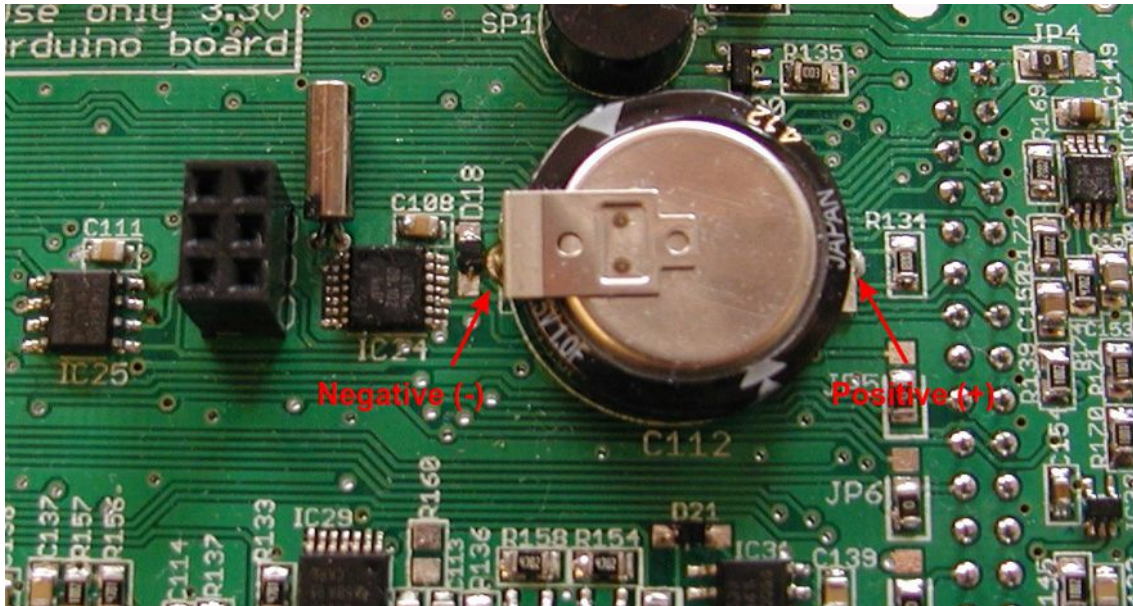

Fig. 5: Placement of the supercap which backups the RTC chip – note the polarity, which must be correct.
- The super capacitor is polarized, as are the electrolytic capacitors and the battery cell. Make certain all these are properly oriented, at least twice, before installing them! (see Fig. 5)